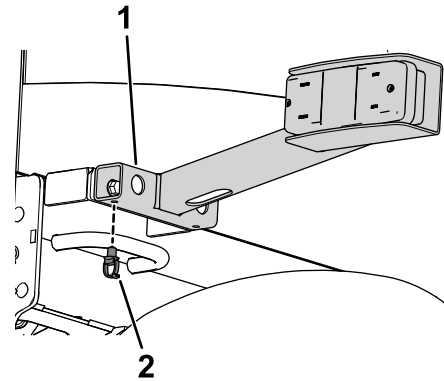

Figure 18
7. Insert a tie clip into the rear hole of the right tail light (Figure 18).